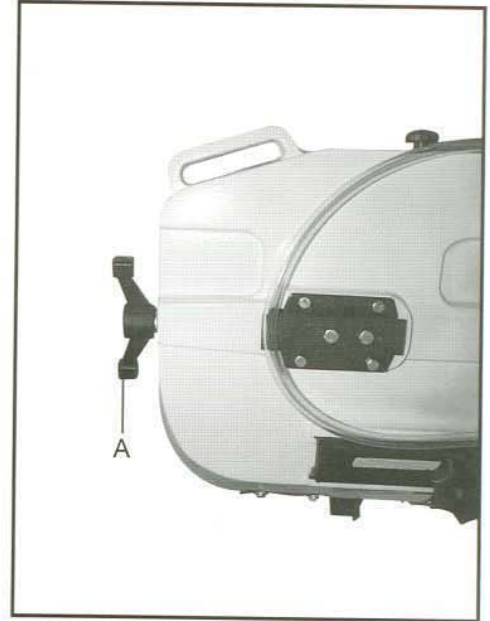

Fig. 11
3. Turn the blade tension knob (A, Fig. 11) one and three quarter to two revolutions clockwise. This equals approximately 23,000 lbs. of blade tension.